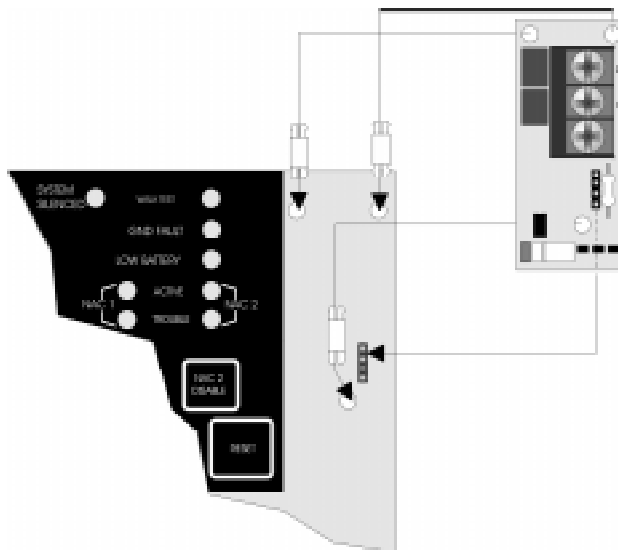

Figure 4-8 SK-2884 Connector and Stand-off alignment
3. Plug the SK-2884 Serial board on SK-2224 control panel by aligning the 4-pin connector and the stand-offs with their respective receptors. See Figure 4-8.